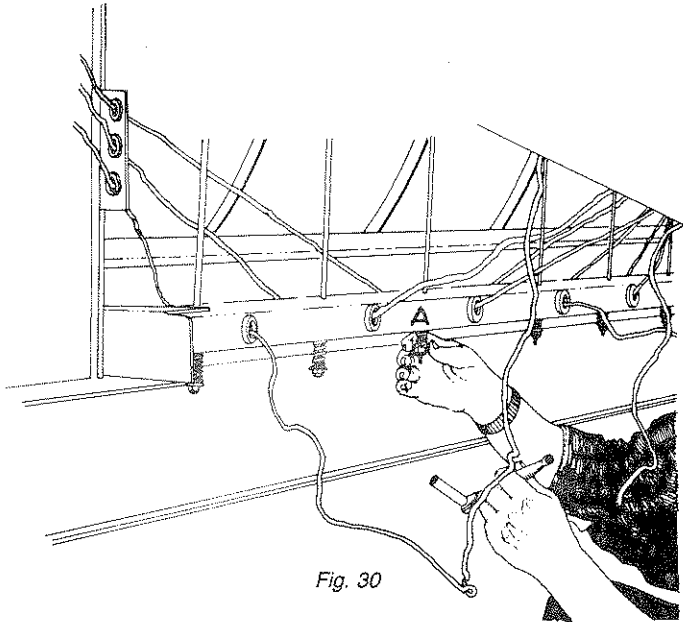

Fig. 30
2. Adjust the twine tensioners at "A", see *Fig. 30*. Place twine through the tensioners during adjustment, the twine itself serves as a gauge. The correct adjustment is when twine can be PUSHED through the tensioners while having a minimum amount of clearance between the tensioners. If tensioners are worn  $\frac{1}{32}$  inch or more, replace them.